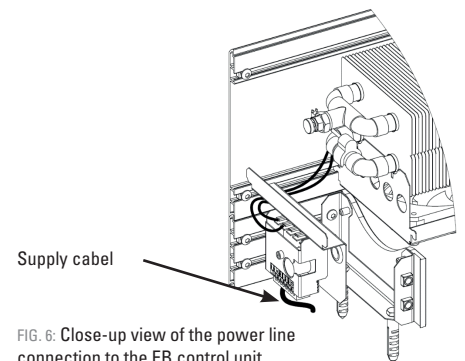

FIG. 6: Close-up view of the power line connection to the EB control unit.
- › For models with a fan - connect the power line to the EB control unit, Fig. 6.